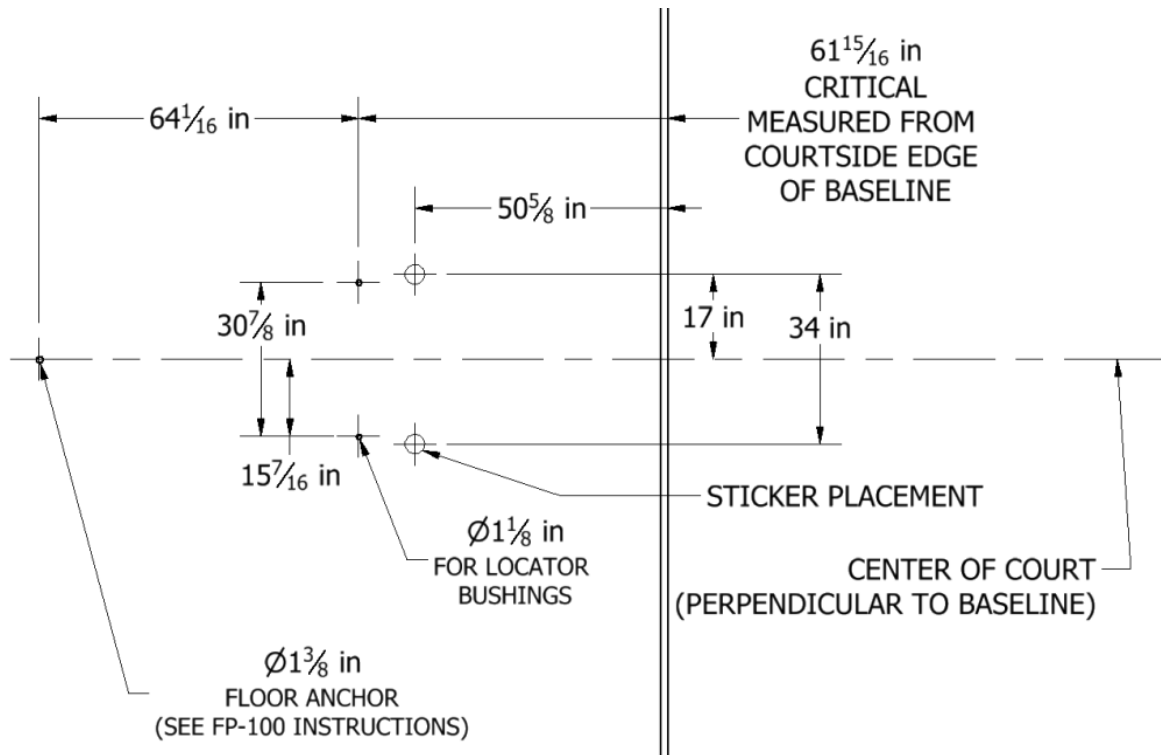

Figure 10-3: PBEL96 Locating and anchor holes and sticker locations.
- c. PBEL96 (96" overhang): refer to Figure 10-3